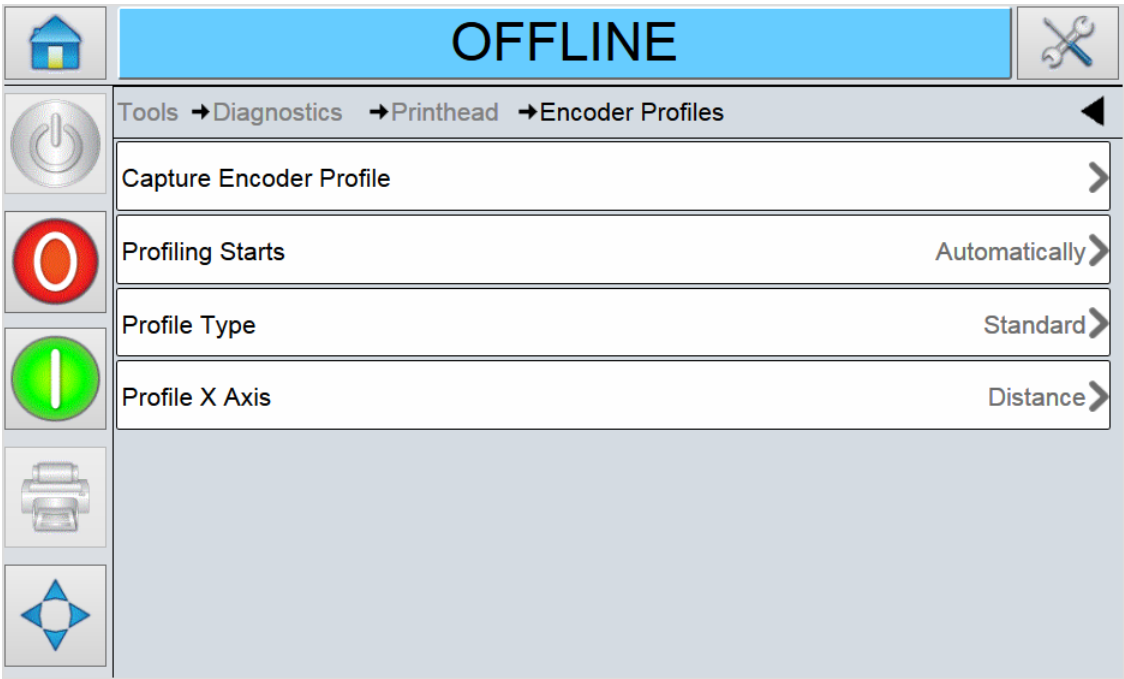

Figure 5-16: Encoder Profiles Screen
- 1. Touch Encoder Profiles on the Printhead screen to access the Encoder Profiles parameters (Figure 5-16).